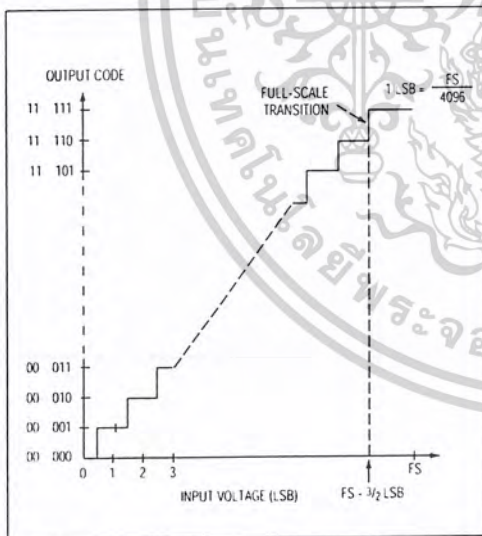

Figure 10. Unipolar Transfer Function
Output data coding for the MAX196/MAX198 is binary in unipolar mode with  $1\text{LSB} = (FS / 4096)$  and two's-complement binary in bipolar mode with  $1\text{LSB} = [(2 \times |FS|) / 4096]$ . Code transitions occur halfway between successive-integer LSB values. Figures 10 and 11 show the input/output (I/O) transfer functions for unipolar and bipolar operations, respectively. For full-scale (FS) values, refer to Table 1.